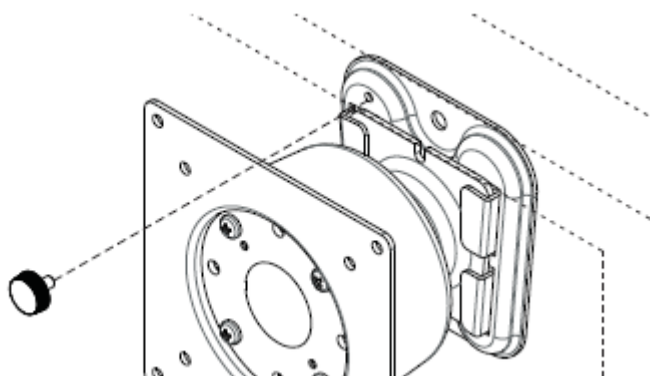

Figure 2.25 Secure the Panel PC
- Put the Hook Brackets into the holes according to the arrow and hookup machine. (See Figure 2.25)